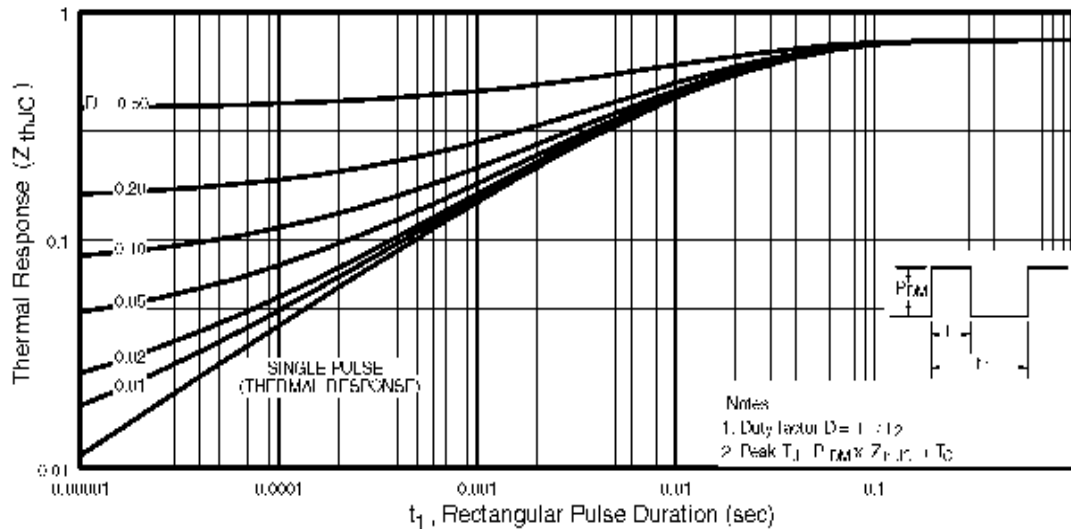

Fig 11. Maximum Effective Transient Thermal Impedance, Junction-to-Case
① Repetitive rating: pulse width limited by max. junction temperature. (See fig. 11)